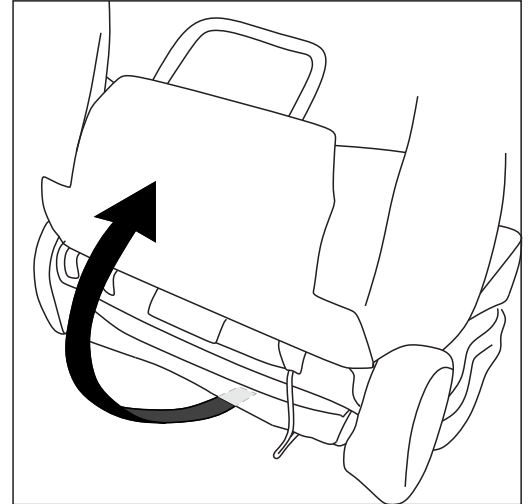

Fig.2
2. Release the flap from behind and beneath the front seats if applicable (Fig.2).